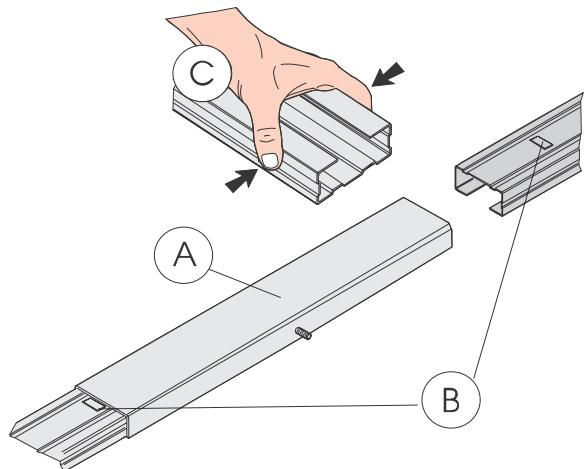

Fig. 6
1) Assemble the two pieces of the sliding guide, fitting them in the central joint (Fig. 6 ref. A) until they come to a stop against the metal reference reliefs (Fig. 6 ref. B). To facilitate engaging the sliding guide, we advise you to insert it in the central joint, compressing it as shown in Fig. 6 ref. C. Do not use tools which could deform the guide or joint.